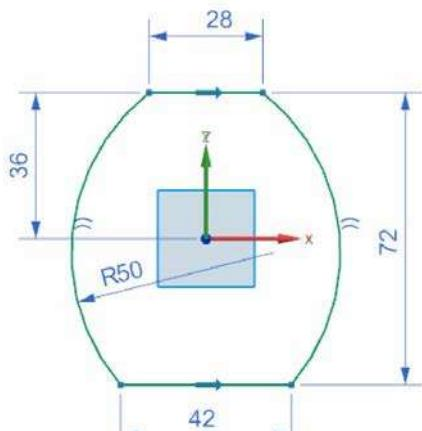

Figure 11-42 Sketch for the base feature
- Create the base feature using the **Bounded Plane** tool, refer to Figures 11-42 and 11-43.
- 1. Draw the fully constrained sketch on the XC-ZC plane, as shown in Figure 11-42. Exit the sketch.